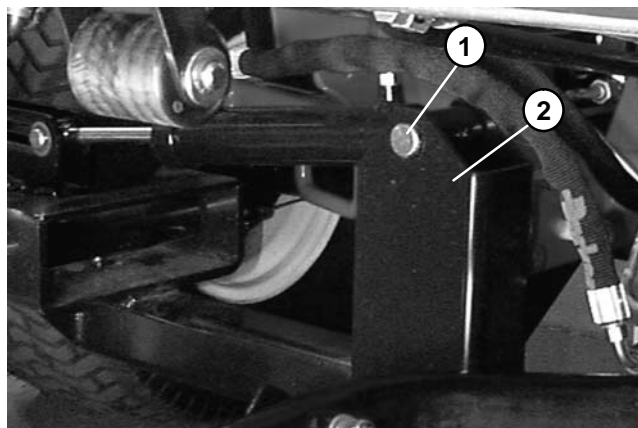

Figure 96
B. Remove self tapping screw from cylinder pin and carrier frame. Pull cylinder pin from carrier frame and cylinder clevis (Fig. 96).
A. Insert cylinder pin through carrier frame and cylinder clevis. Secure self tapping screw to cylinder pin and carrier frame (Fig. 96).
B. Insert cylinder pin with attached retaining ring and thrust washer through the lift arm and cylinder clevis. Secure thrust washer and retaining ring to the cylinder rod end pin (Fig. 96 and 95).